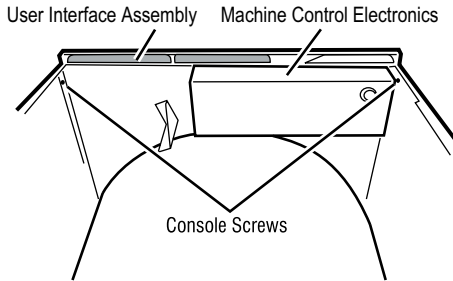

Figure 7. Locate the electronic assemblies
There are two electronic assemblies; the user interface assembly, and the machine control electronics. See Figure 7.
2. After removing the top panel, remove the console screws located in the upper corners of the console. See Figure 7.